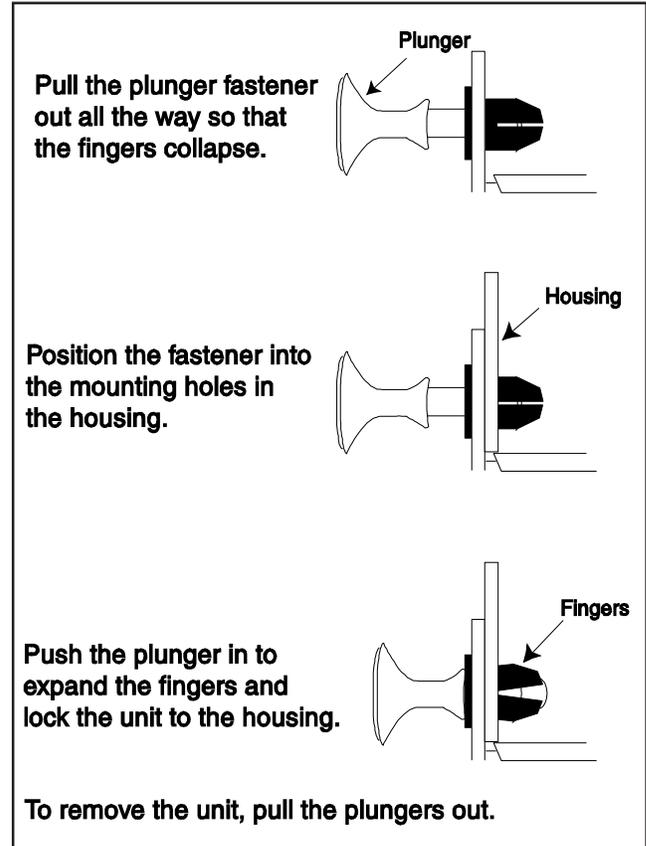

Figure 8
- b) Remove the blank panels by pulling on the plunger fasteners as shown in Figure 8.
- c) Pull out the plunger fasteners on each module and position the module so that its base is in the mounting hole. Press the plunger to lock the module in place (Figure 8).